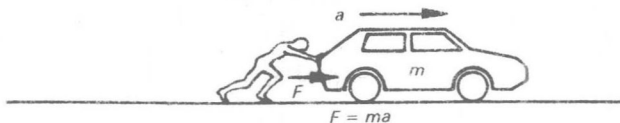

Figure 1.6 A force produces an acceleration
Force is a measure of the 'push' or 'pull' which is often exerted on a body. When exerted on a mass (m), a force (F) will produce an acceleration (a) (see Figure 1.6). The magnitude of this force is given by Newton's equation: